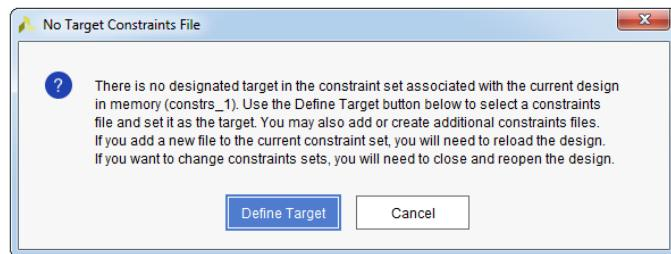

Figure 10.9: No Target Constraints File dialog box
2. When the **No Target Constraints File** dialog box appear, see Figure 10.9, just click **Define Target** option to associate current design with constraints file.